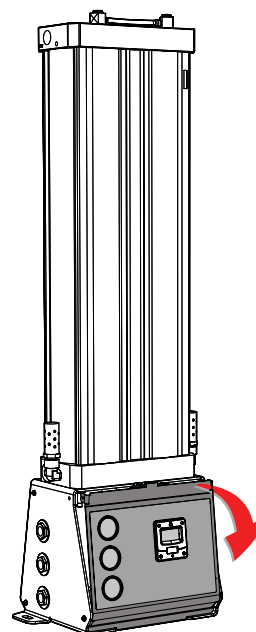

Figure 3
- Open the front cover (see figure 3) and locate the flying lead on the bottom of the control plate and remove the insulating sheath.